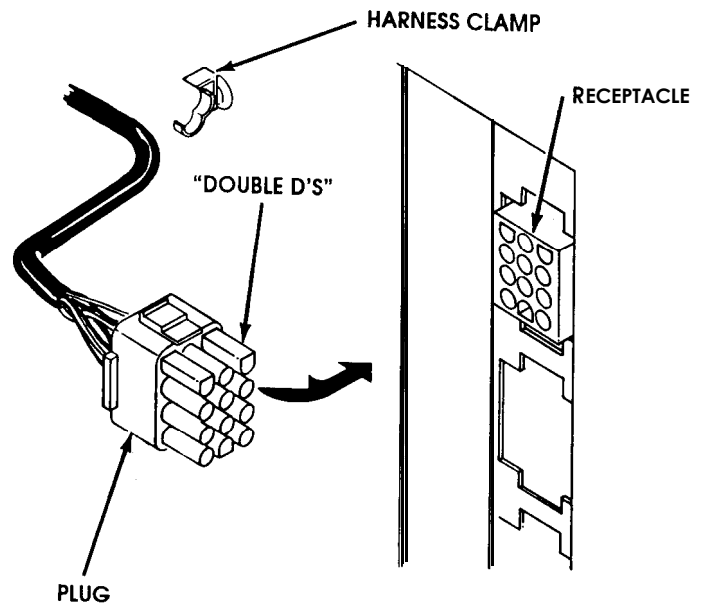

Figure 13
2. Disengage the tray harness from its snap open harness clamp on the right hand side wall. See Figure 13.